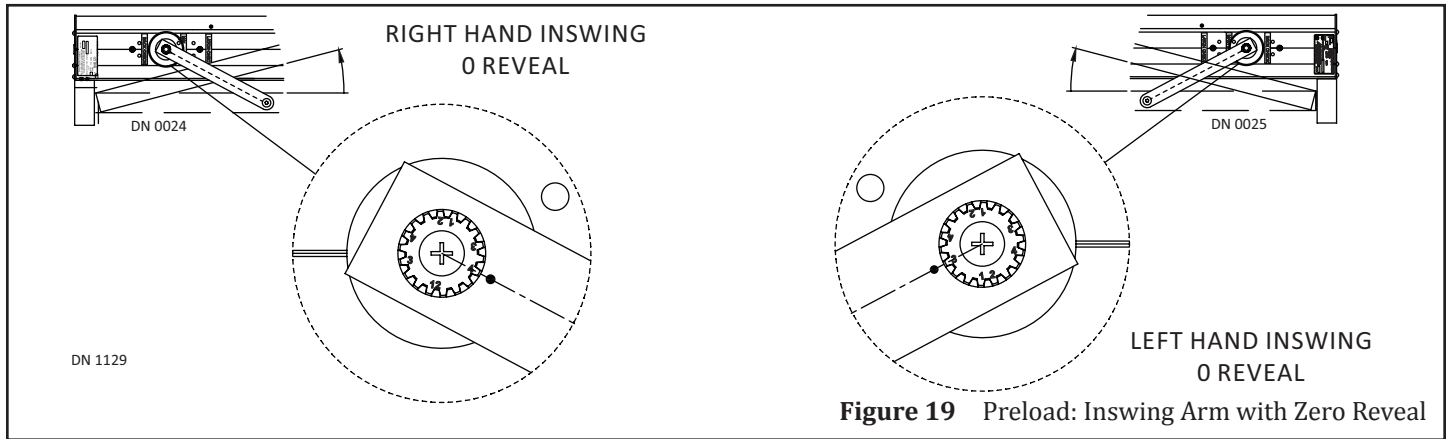

Figure 19 Preload: Inswing Arm with Zero Reveal
4. Please see Figure 17, or Figure 18, or Figure 19.